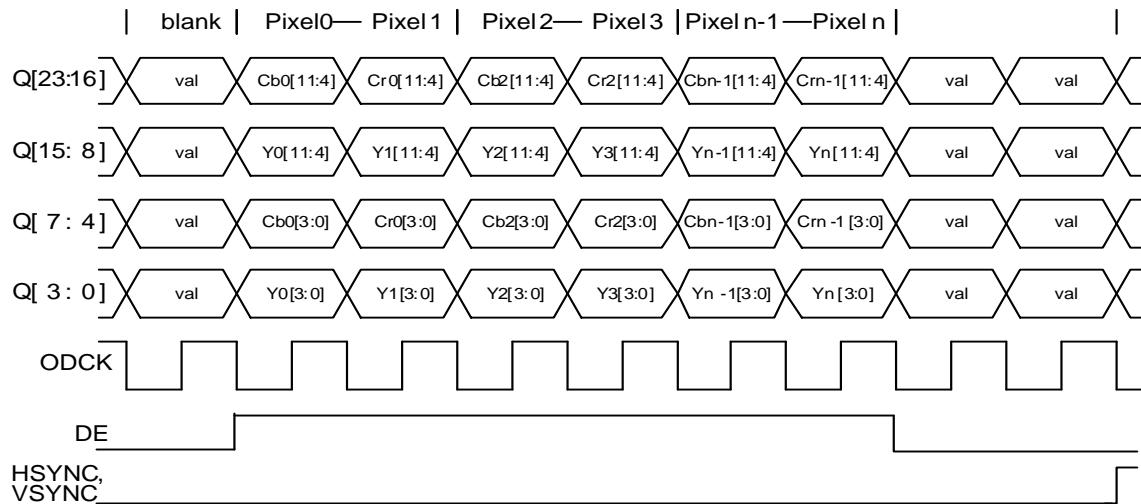

Figure 22. YCbCr Timing Diagram
The YCbCr 4:2:2 formats output one pixel for every pixel clock period. A luminance (Y) value is sent for every pixel, but the chrominance values (Cb and Cr) are sent over two pixels. Pixel data can be 24-bit, 20-bit or 16-bit. HSYNC and VSYNC are output separately on their own pins. The DE HIGH time must contain an even number of pixel clocks. Figure 22, Figure 11 shows timings with OCLKDIV = 0 and OCKINV = 1.